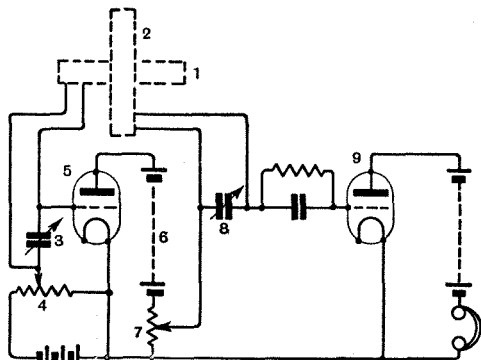

Fig. 3. Showing how a control valve is employed in the receiver of a direction finder.
An improvement in this method† consists in arranging the apparatus to determine the occurrence of minimum flow in a circuit by causing the current to maintain a valve paralysed except when the current is at or near its minimum or zero value. One method may be explained with reference to Fig. 3. For determining the direction of a transmitting station, two coils or loop aerials (1, 2) are employed, these loops being fixed at right angles to one another, with their planes vertical. The direction of the transmitting station is determined by ascertaining when the current in the first loop (1) is a minimum; that is to say, when this loop is in such a position that the direction of the transmitting station is perpendicular to the plane of the loop. The plane of the second loop (2) is then directed towards the transmitting station. The terminals of the first loop, across which a tuning con-